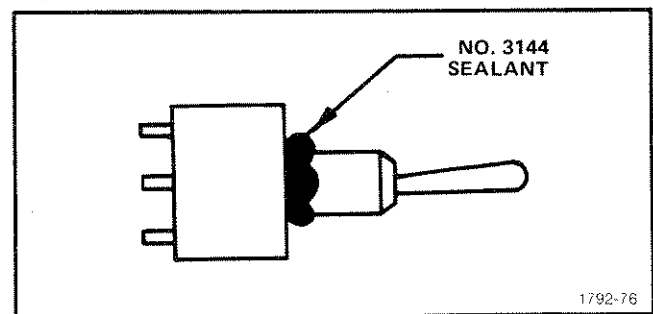

Fig. 5-23. Application of sealant to RECORD toggle-switch bushing.
**21. Install the Record control (see Figs. 5-23, 5-24, 5-25)**
1. Form a bead of No. 3144 sealant around the bushing/switch body interface as shown in Fig. 5-23.